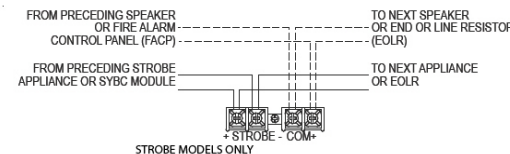

Figure 1
- Connect speaker wires to common and positive of terminal block and select the power tap terminal for 1/8W, 1/4W, 1/2W, 1W or 2W; 25V or 70V as required (see Figures 1, 2, 3, 4 and Table 4). Each doubling of rated Watts increases sound output by 3 dBA.